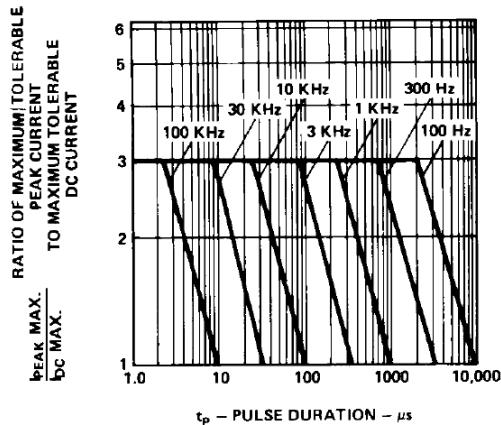

Figure 10. Maximum tolerable peak current vs. pulse duration.
1. See Figure 10 (High Efficiency Red), 15 (Yellow), or 20 (Green) to establish pulsed operating conditions.